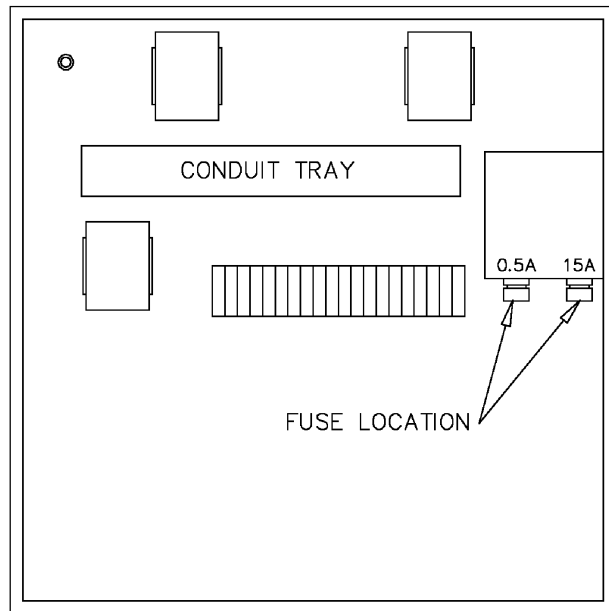

Figure 3. Fuse location.
- The fuses are located in the control box on the right hand side (See Figure 3).